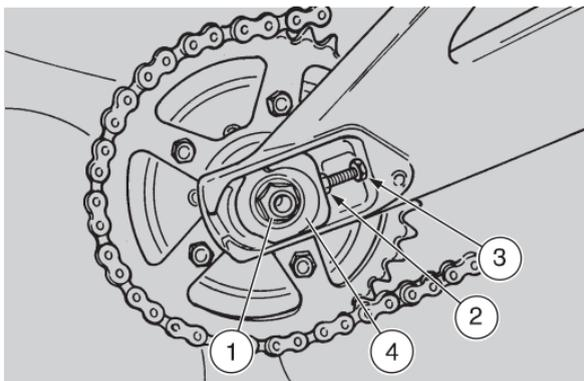
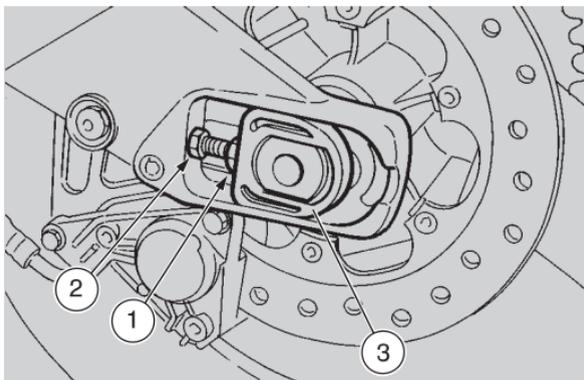

Fig. 32
Fig. 33
- loosen the fastening nut of the rear wheel pin (1-Fig. 32);
- loosen the two lock nuts of the right (2-Fig. 32) and left (1-Fig. 33) adjusters, positioned near the rear wheel pin;
- act on the right (3-Fig. 32) and left (2-Fig. 33) adjusters, making sure that the fixed references on the rear fork coincide on both sides with the mark stamped on the mobile plates (4-Fig. 32, 3-Fig. 33);